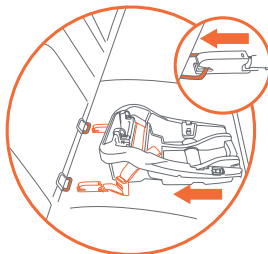

Fig. 51-2
4. Remove the **LATCH** Push On Connectors from their storage position inside the base (Fig. 51-1). Place the Base in the rear-facing position in a forward facing vehicle seat as shown in (Fig. 51-2). **The Child must face the rear of the vehicle and Safety Seat must be placed in a vehicle seat that faces forward.**
5. Locate the **LATCH** anchors in the vehicle seat (Fig. 51-2). Once located, snap the Safety Seat **LATCH** connectors onto the steel rod. Listen for the click and check that both connectors are firmly attached to the anchor rods by pulling outward on the connectors. The **LATCH** connector indicator window will turn Green when the **LATCH** connector is attached to the **LATCH** Anchor (Fig. 52.1).